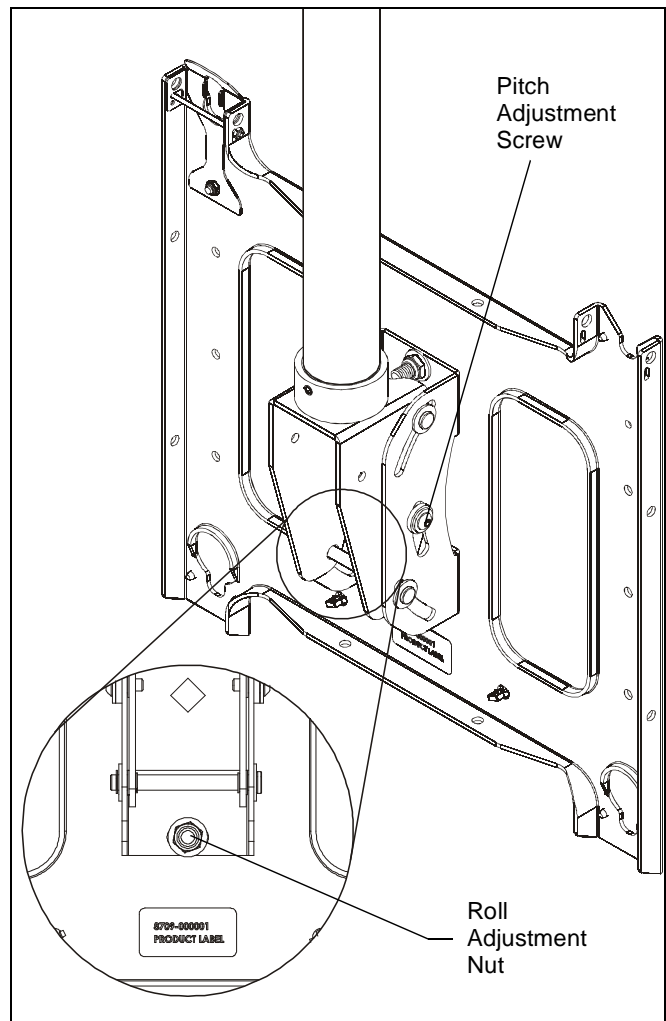

Figure 5
1. Using a 9/16" wrench, loosen the Nylock roll adjustment nut on back of mounting plate. (See Figure 5)
2. Using the 5/32" hex head wrench (B), tighten the pitch adjustment screw to hold mount in position. (See Figure 5)